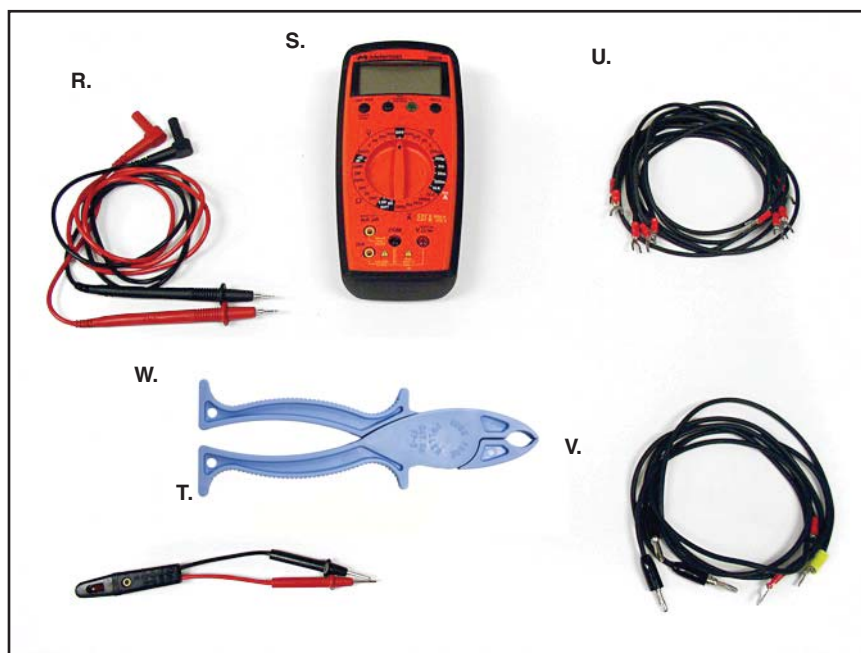

Figure 2-5. T7017 Instruments and Connectors
- 5. Locate the connection wires and test equipment included with the T7017, as listed below and shown in figure 2-5.